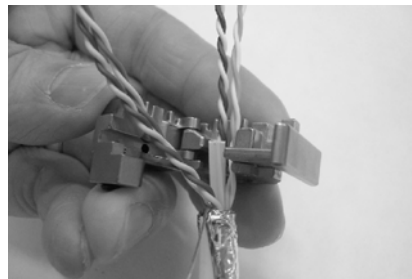

Figure 19
6. Open the lacing fixture and insert the cable until the top of the center spline filler is aligned with the shelf of the fixture as shown in Figure 19.